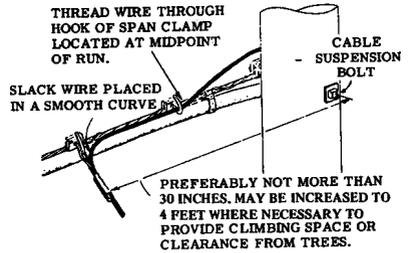

FIGURE 4. On Lashed Cable
- 3.03 Where the distance between a span clamp and cable suspension bolt is less than 4 feet, the drop wire is supported as shown in Figures 4 and 5.